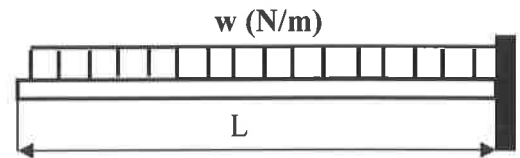

Figure Q1
1. For the 2 standard beam cases shown in Figure Q1, derive equations for deflection and slope at any point along each beam, and hence derive equations for the maximum values.